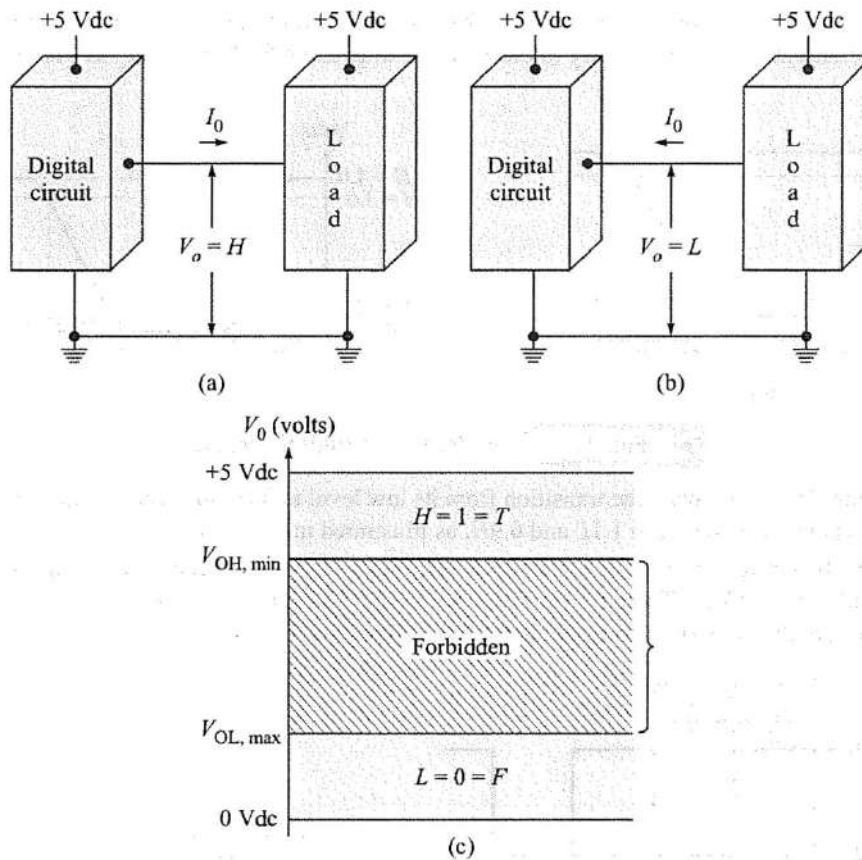

Fig. 1.4 Loading of digital circuit
- The digital voltage levels described in Fig. 1.4 can be produced using switches on the next page. The switch is down and $V_o = L = 0 = 0 \text{ V de}$. When the switch is up, as $V_o = H = 1 = +5 \text{ V de}$.